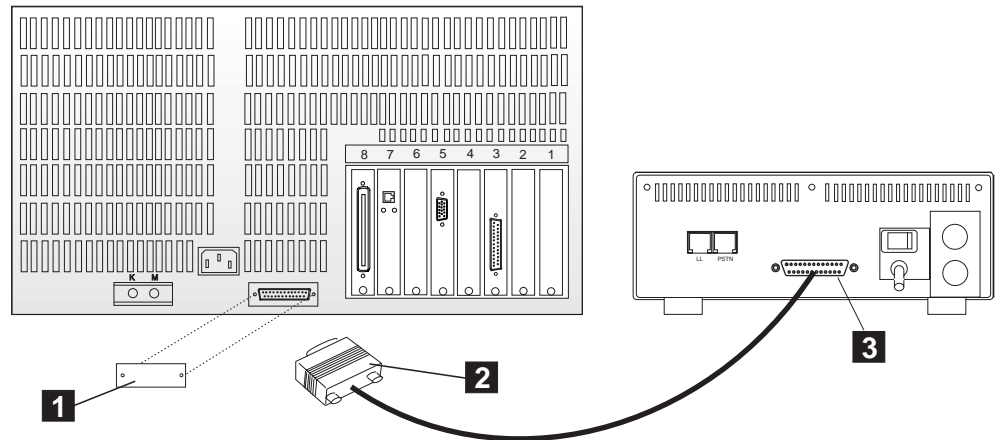

Figure 1-83. Connecting the Service Processor (3172) from COM1 to the 7857
- **3172**, refer to Figure 1-83 on page 1-73